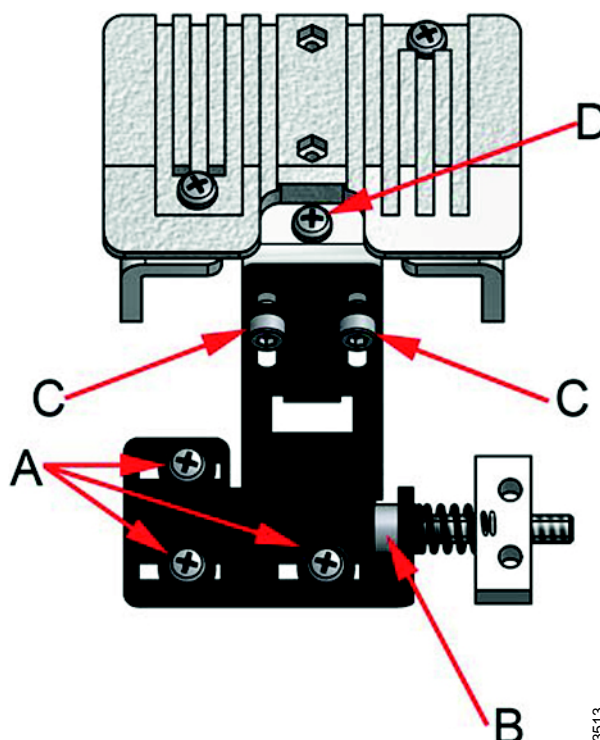

Fig. 4-169
2. If the light-field needs to be moved laterally, loosen (not remove) the fixing screws A, see **Fig. 4-169**.